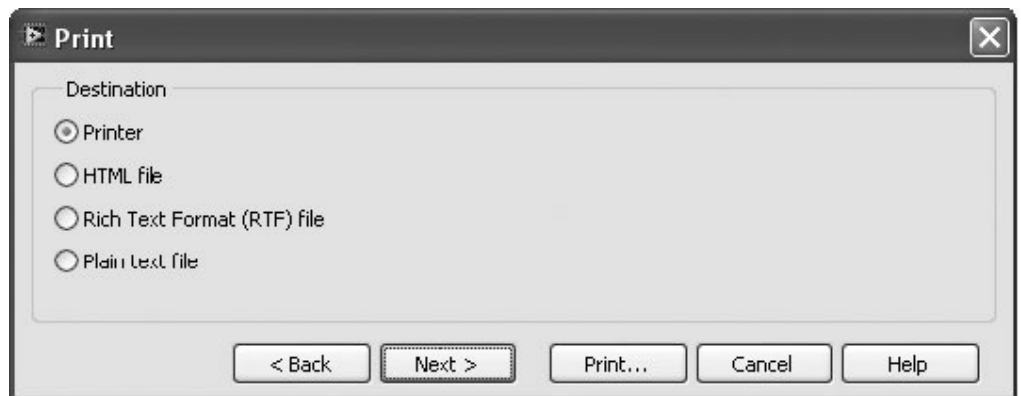

Figure 1.3
- If you select any of the other options, the next page allows you to specify the destination for the printout, as illustrated in Figure 1.3.